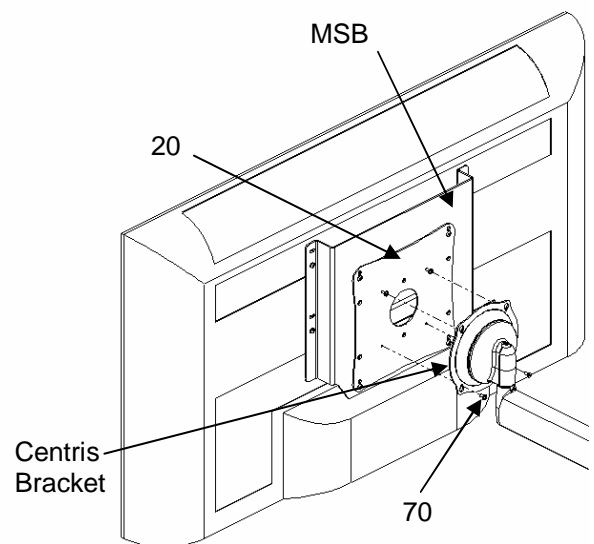

Figure 15. Mount MSB to Centris Bracket
3. Hang display on Centris bracket (see Figure 15).
4. Install two remaining M4 x 8mm Phillips pan head screws (70) into bottom two mounting holes of MSB or VESA Plate (20).